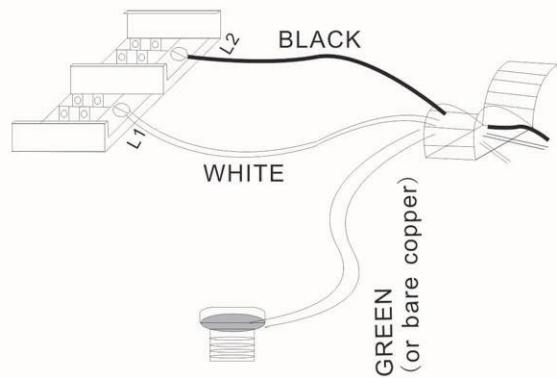

Figure 7
2. Attach the cable connectors to the unit (See Figure 7) and slide the 10-gauge wire through the cable connector.
**NOTE:** All wiring must be carried out by a Certified Electrician and must be in accordance to national and local electrical codes in the United States. For certain applications, conduit may be required, See Figure 7. Check local electrical codes. If you run the wiring in conduit and wish to be able to turn the heater be sure to purchase enough flexible conduit to allow the heater to be turned.
3. Connect the wire to the power block located in the base of the heater - See Figure 7.